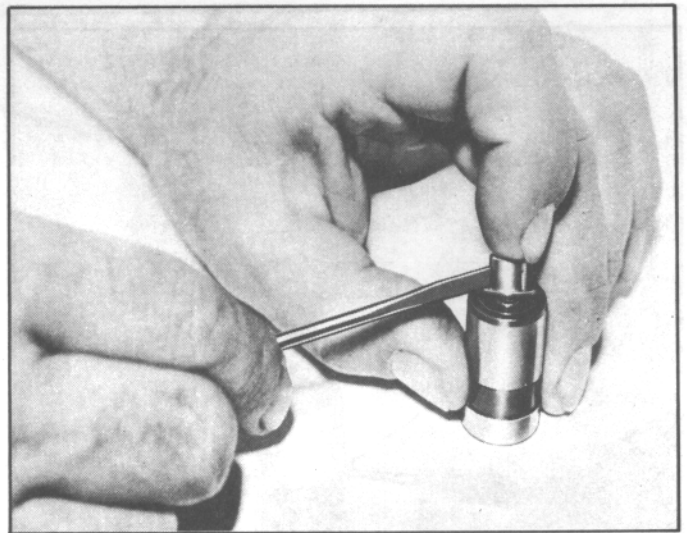

Fig. 114. Removing Ball Check Valve
4. Remove the ball check valve and spring by prying the ball retainer loose from the plunger with the blade of a small screw driver (Fig. 114).